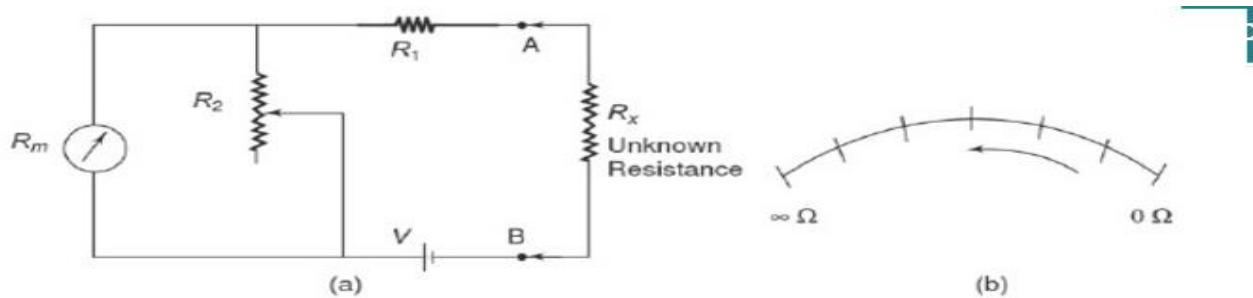

Fig. 4.30 (a) Series type ohmmeter (b) Dial of series ohmmeter
A D'Arsonval movement is connected in series with a resistance  $R_1$  and a battery which is connected to a pair of terminals  $A$  and  $B$ , across which the unknown resistance is connected. This forms the basic type of series ohmmeter, as shown in Fig. 4.30 (a).
Referring to Fig. 4.30 (a)
Therefore, in a series ohmmeter the scale marking on the dial, has “0” on the right side, corresponding to full scale deflection current, and “ $\infty$ ” on the left side corresponding to no current flow, as given in Fig. 4.30 (b).
**Multirange Ohmmeter** The ohmmeter circuit shown in Fig. 4.30 is only for a single range of resistance measurement. To measure resistance over a wide range of values, we need to extend the ohmmeter ranges. This type of ohmmeter is called a multirange ohmmeter, shown in Fig. 4.31.